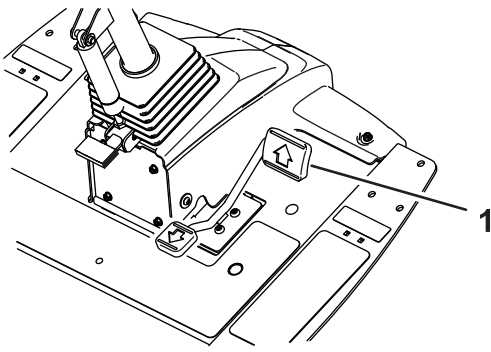
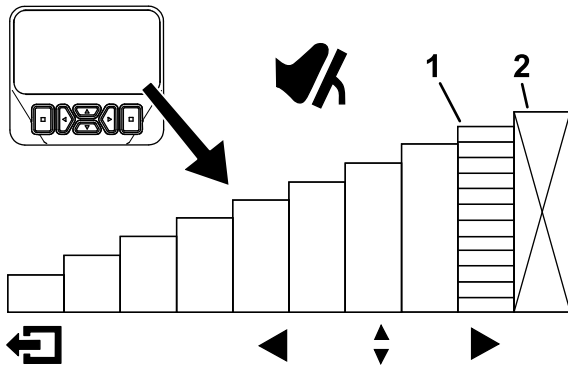

Figure 28
Figure 29
To temporarily set the maximum speed of the machine, press the traction pedal fully forward (Figure 28). You can set a separate speed for the mow range and transport range (Figure 29).
- To access this feature, press the up or down navigation button from the main screen. (Figure 29).